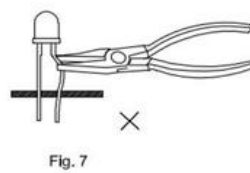

Fig. 7
- 2, Do not bend the leads more than twice. (Fig. 7)